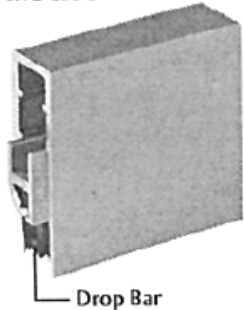

Figure 7 - Improper Drop Bar
2. Be sure that the drop bar (part that contains the seal) does not project beyond the end of the case when the actuation plunger is depressed (as shown in Figure 7). If it does project beyond the case, it was improperly trimmed in the field. This condition can be corrected by removing the unit and trimming the excess.